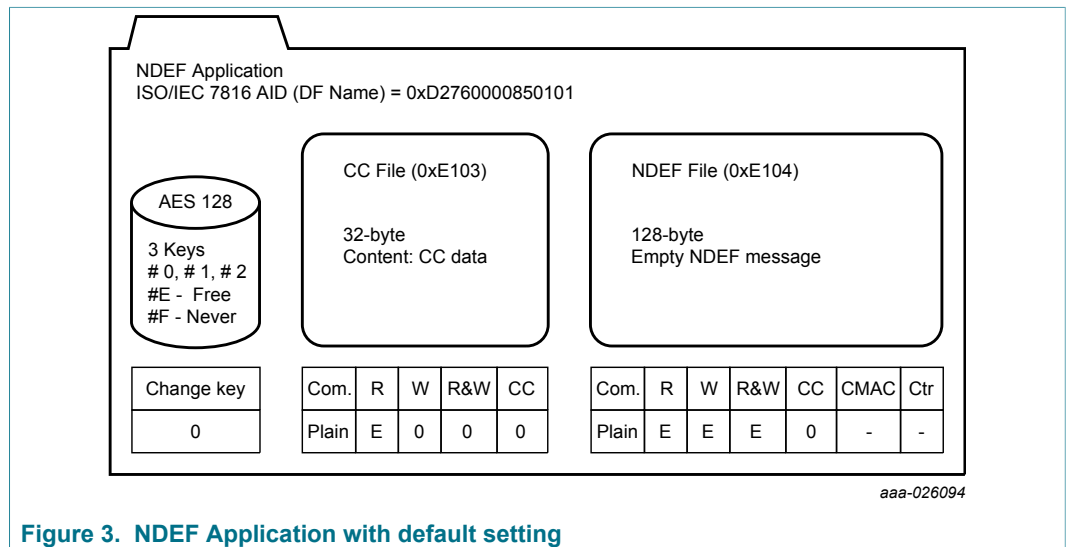

Figure 3. NDEF Application with default setting
The file system is according to NFC Forum-TS-Type-4-Tag_2.0 NFC [5]. The application structure, see Figure 3 of NTAG 413 DNA is fixed and optimized to fulfil the requirements of the generic and secure NFC applications. In the single application, there is a set of keys and different access link to those keys can be provided by file settings. Note in the file setting "CC" stands for change configuration whereas the 32-byte file is called CC (Capability Container) file
The capability container (CC) file is initialized with the following data field: "000F20010000FF0406E10400800" present in "INITIALIZED" state. Date structure of the CC file is explained in [5]. It can be updated by authenticating with key number 0. The default access right is set as in Figure 3, write (w), Read & Write (R&W) and change key can be set to any other value or "F" to make this file read only. To be NDEF complaint the read (R) access shall remain free (E). One-byte CC file ID is 0x01, is to be used as file number/ ID for the commands with class byte 0x90, if required.